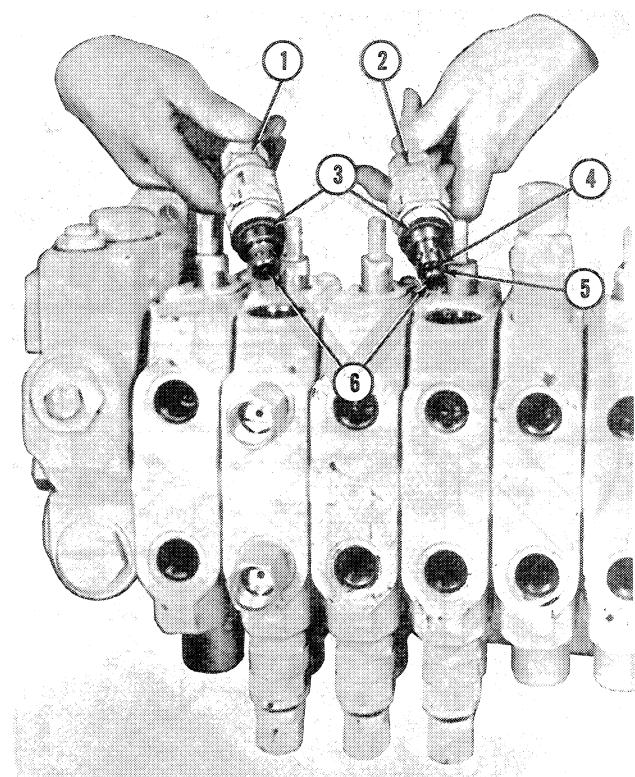

Figure 7
CIRCUIT RELIEF VALVES: There are two different style circuit relief valves used in the main control valve, as shown in Figure 7. The one on the right is used in the lift rod end circuit. Note the length of the sleeve poppet (6) and also the addition of an O-ring (5) and back-up ring (4) for better sealing during a craning operation. The circuit relief valve on the left is common in construction to all other circuit relief valves and the system relief valve. Note that it has a tapered sleeve poppet with no sealing rings. This construction allows the sleeve poppet to move off its seat during cavitation.